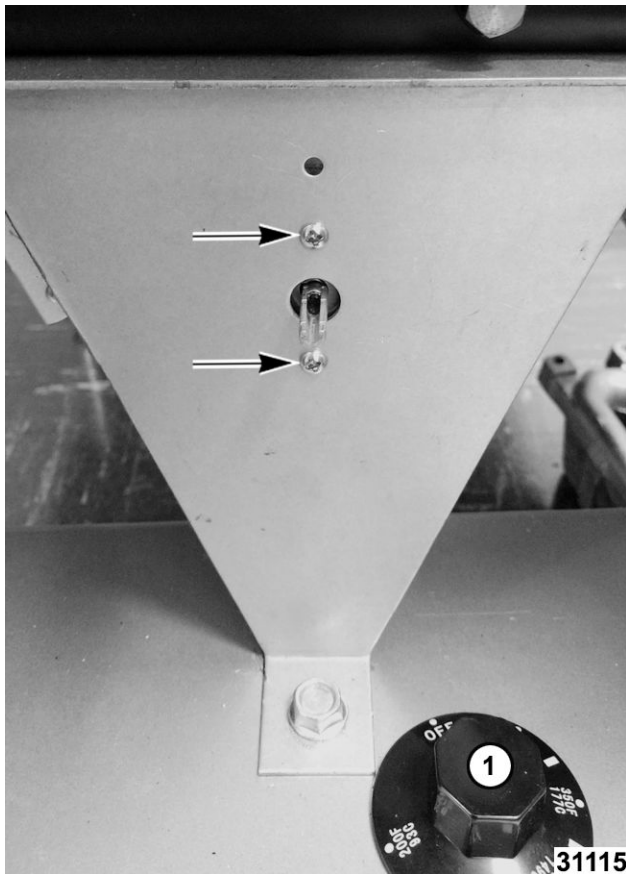

Fig. 9
5. Pull thermostat knob (1, Fig. 9) off thermostat shaft.
6. Remove thermostat mounting screws (Fig. 9) and bracket.